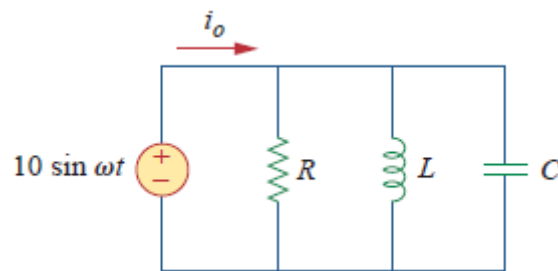

Figure 10- 11: Parallel RLC circuit.
1. Implement the circuit of Figure 10 in LTspice and complete the given Table 1.